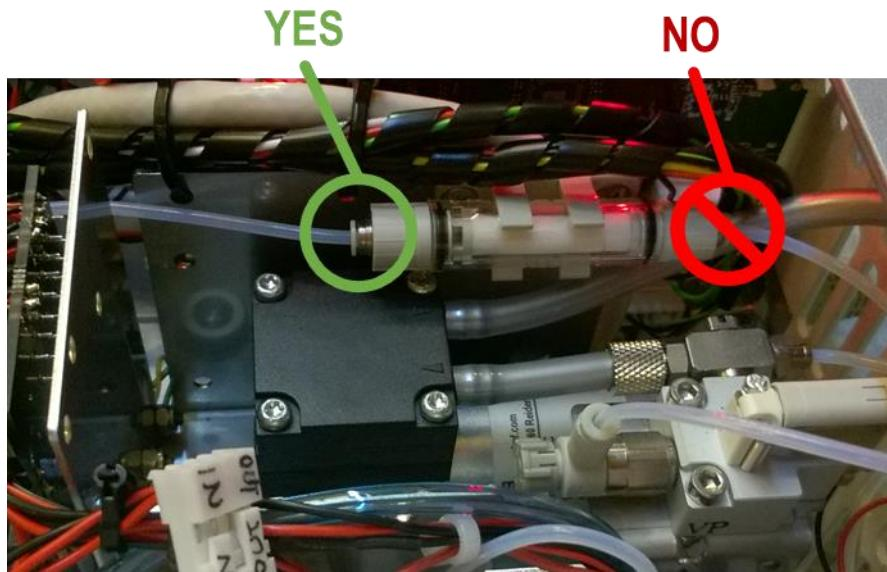

Figure 44. Correct connection point in the particle filter.
- b. Unmount the “Particle filter of PA Module” from GMU. Disconnect the “In” tube coming from GMU. See Figure 44.